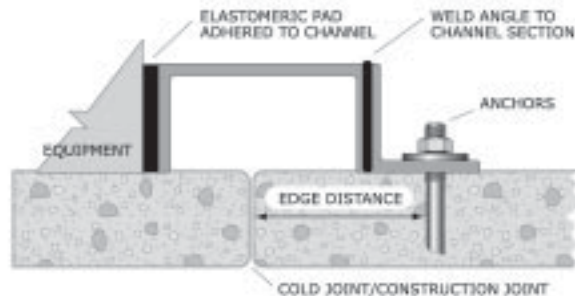

Figure 83: Alternate installation detail of bumpers installed near a concrete joint.
**If anchors are near a joint in the concrete, see detail in Figure 83.**
For instructions on installing anchors, see Anchors (page 104). If the anchors are near a concrete joint, refer to the detail in Figure 83 (page 60).
For instructions on installing anchors, see Anchors (page 104). Figure 83 (page 60) shows equipment restrained with bumpers next to a cold joint.